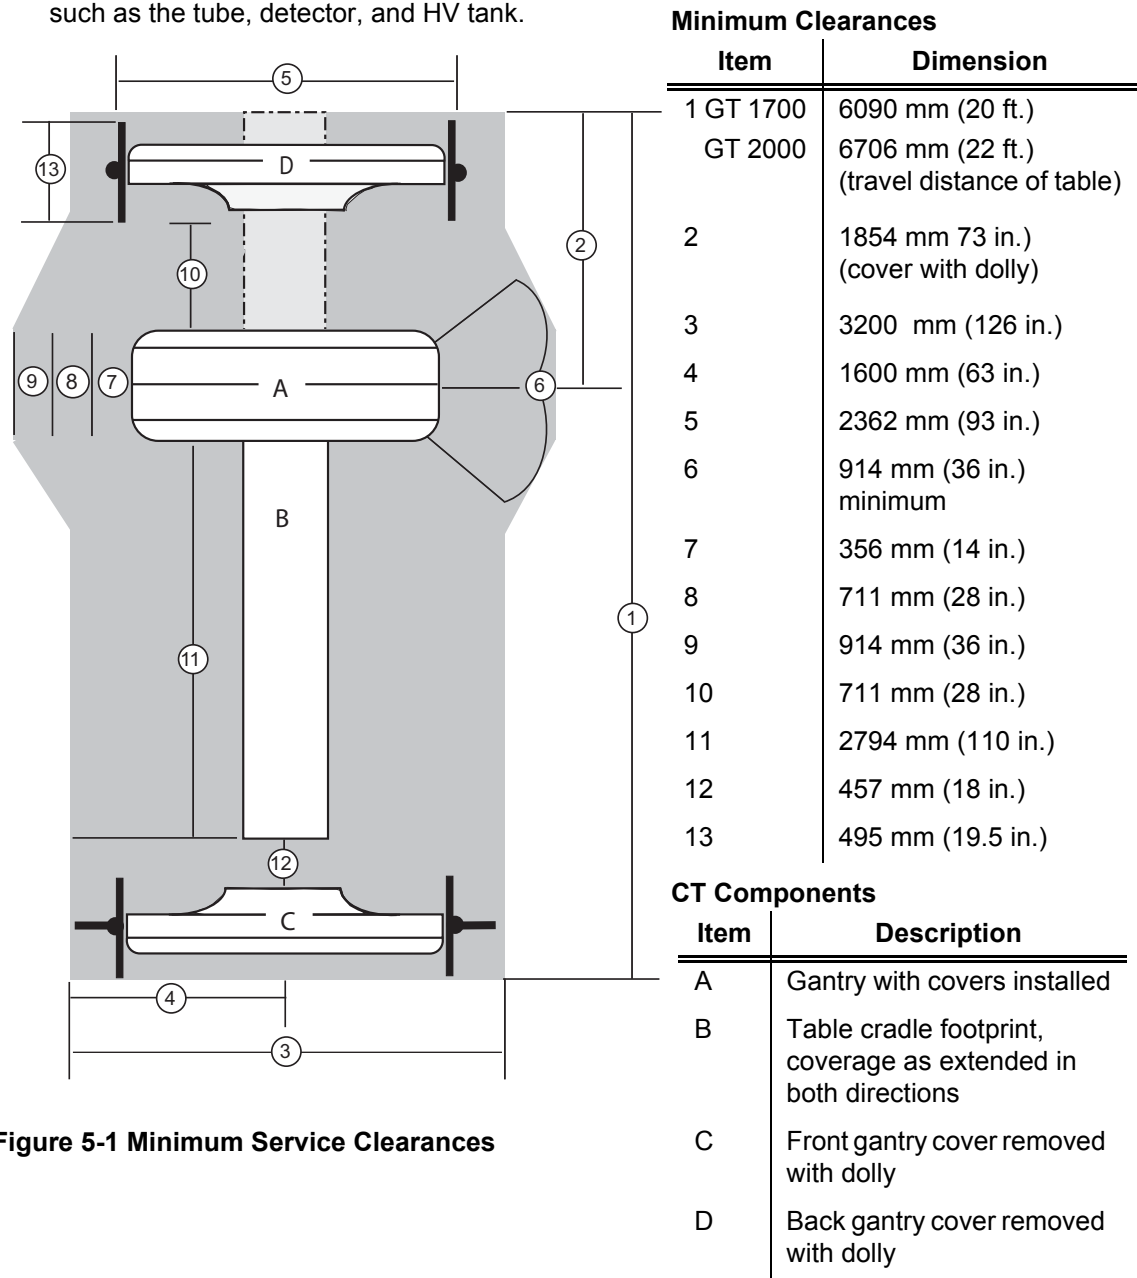

Figure 5-1 Minimum Service Clearances
Note: A similar map of detailed dimensional clearance measurements necessary for safe *servicing* of the system is provided in Figure 5-1, on page 43.
The regulatory envelopes defined in Figure 5-1 provide enough space to safely allow CT System servicing. System Servicing requires:
Note: When calculating service clearances, refer to Figure 5-1 for all service clearance needs.
- Gantry front cover removal requires the use of the Tilting Cover Dollies and a minimum clearance space of 3200 mm (126 in.) to maneuver the cover, as illustrated in Figure 5-1. The dollies allow the service engineer to separate the cover from the gantry, tilt it 90 degrees, roll it to the foot end of the table, and then tilt it an additional 90 degrees, so that it is upside-down relative to its normal system-mounted condition. After removal, the service engineer must then move the gantry front cover to a position that satisfies the minimum regulatory clearances.
- The gantry rear cover, with service dollies installed, requires a clearance width of 2388 mm (94 in.) and a depth of 914 mm (36 in.) for removal, as shown in Figure 6-2. Sufficient space to allow the service engineer to move the cover either straight back or to one side of the table to satisfy the minimum service clearances shown in Figure 5-1 must be maintained. The rear cover with dollies cannot extend past the allowable clearance space within the room (see Figure 5-1). If the system is not sited straight (it is positioned diagonally), full service space is still required. The PMI and customer should discuss this consideration and make the necessary provisions.